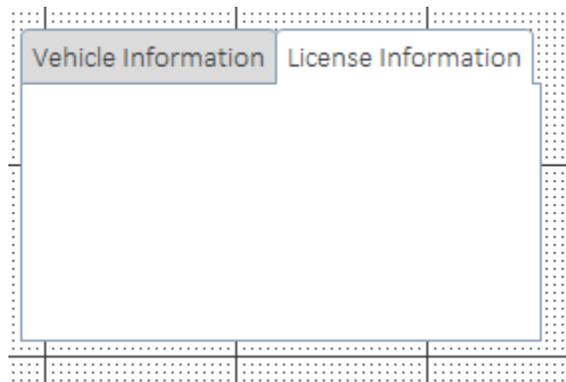

Figure 40: Tab Control after Property Changes
- b. Name the Two Tab Pages: Click on the first page to select its Property Sheet. Change the *Name* property to “Vehicle Information”. Click on the second tab and name it “License Information”. Your tab control should now appear as in Figure 40.